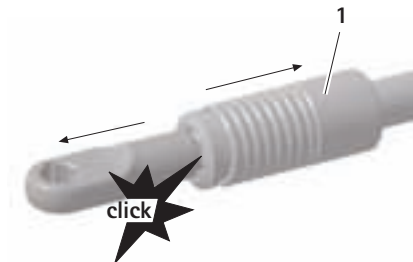

Fig. 4
- Grip the quick-release coupling **1** of the connecting piece **A** or the UNITRAC universal holder **J** on the handle part and pull backwards, see Fig. 4.